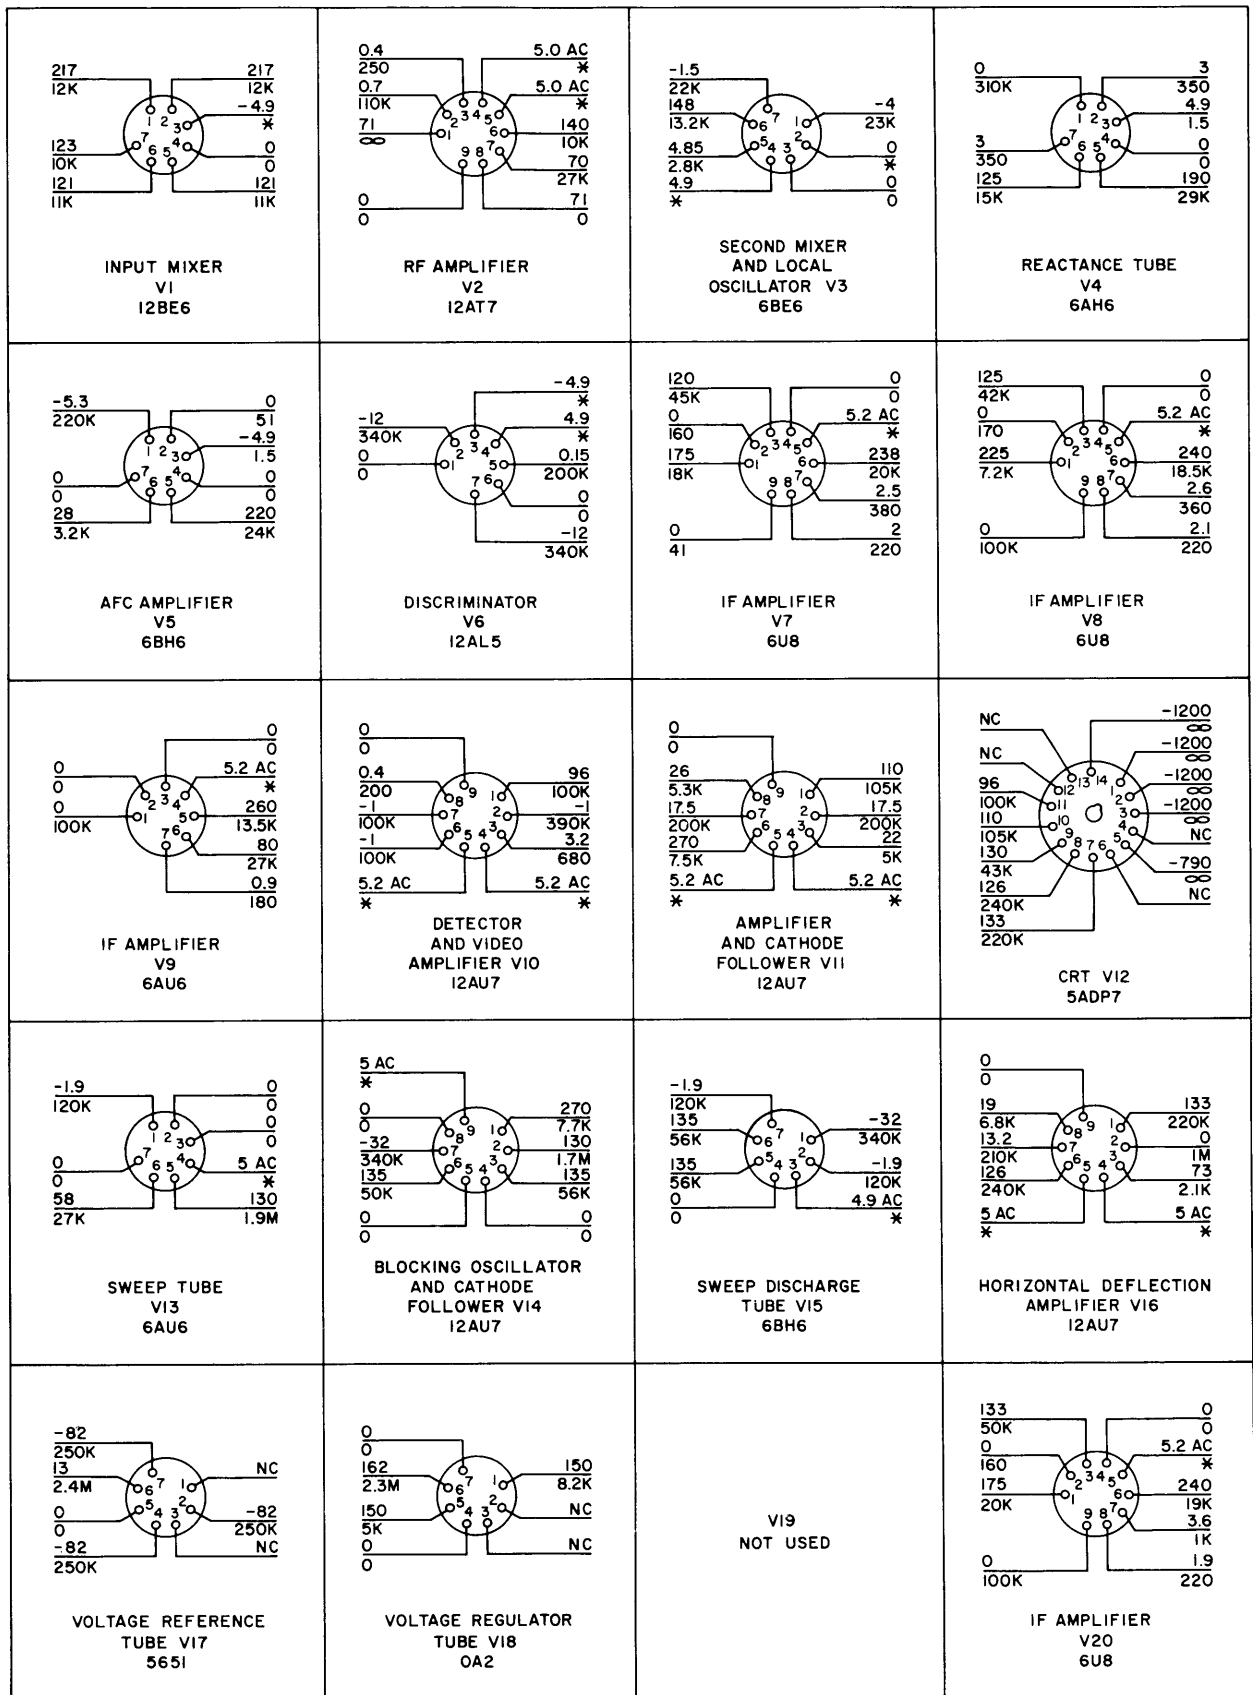
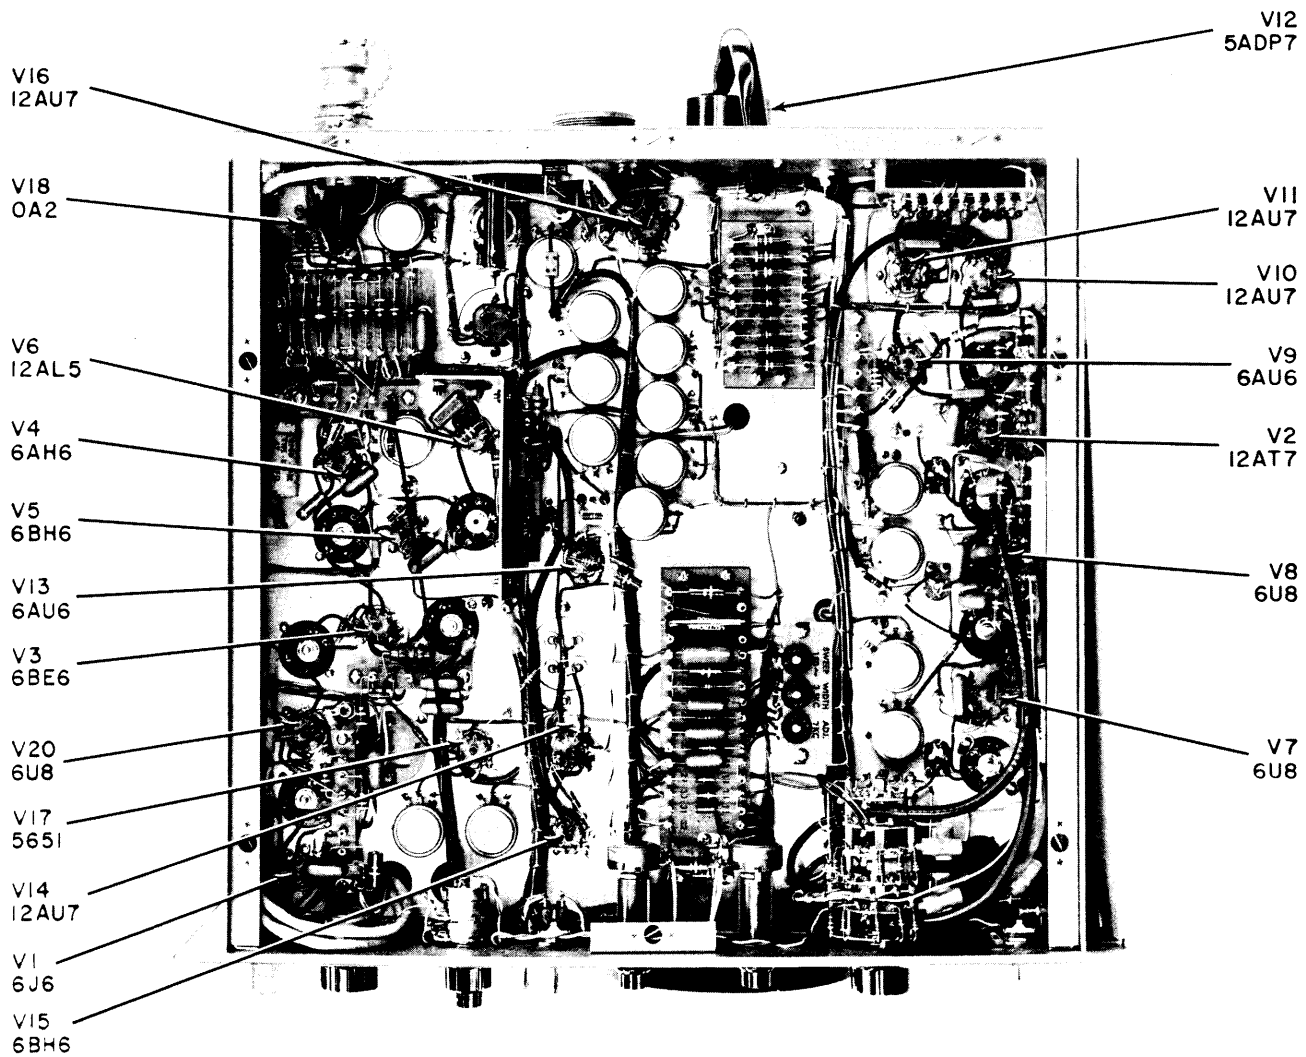

Figure 5-1. Voltage and Resistance Measurements, Model AX-503
Figure 5-3. Tube Locations, Model AX-503
- a. Voltage and resistance measurements, model SA (figure 5-1).
- c. Tube locations, model SA (figure 5-3).
The voltage and resistance values shown in figure 5-1 and 5-2 are nominal measurements taken under the conditions listed below. Large deviations from the normal values shown should be carefully investigated. During this process, use of the schematic diagrams provided in section 8 will prove to be of great assistance. Figures 5-3 and 5-4 provide tube locations.